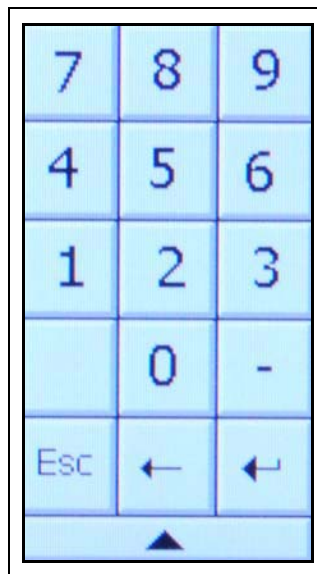

Figure 4R
2. Press the button under the “Homing Interval” label. A number keypad will display. (See Figure 4R.)